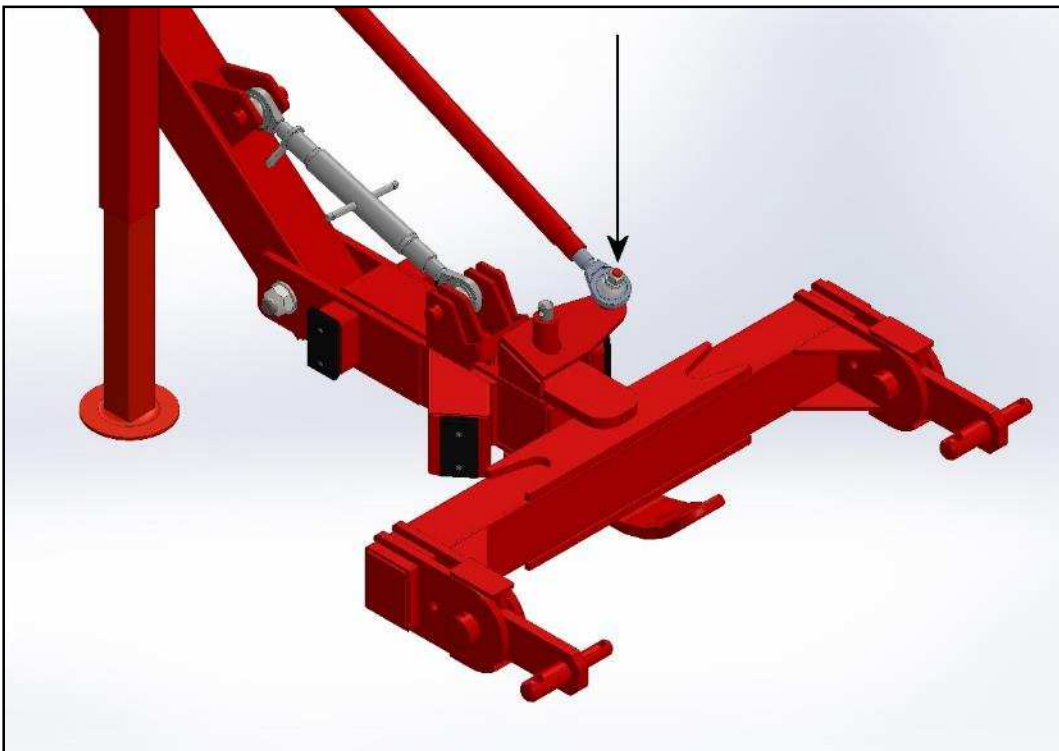

Figure 25
- Couple the front part of the moving steering mechanism to the front tow bar (see Figure 25).